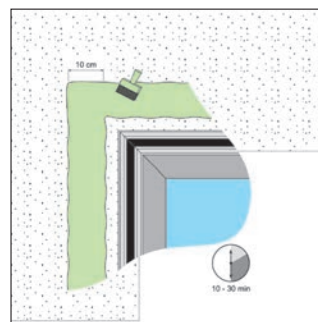

Fig 1: Primer Application
- Apply the primer onto the porous substrate by brush or roller across the whole of the area to be bonded (see Fig. 1).